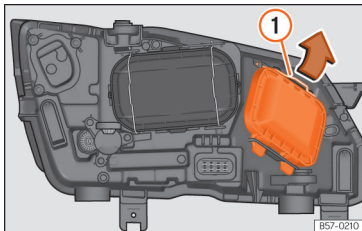

Fig. 55 In the engine compartment: remove the cover.
- Move the loop »» Fig. 55 ① in the direction of the arrow and remove the cover.